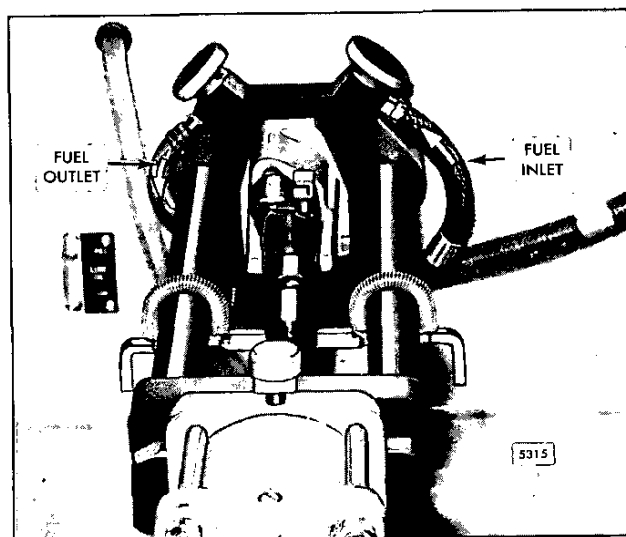

Fig. 8 - Position of Calibrator Fuel Flow Pipes
- Before testing injector output, be sure calibrator test oil is supplied to the injector fitting located over the rack. To change the flow from the calibrator, exchange the positions of the braided and the clear fuel lines (Fig. 8).